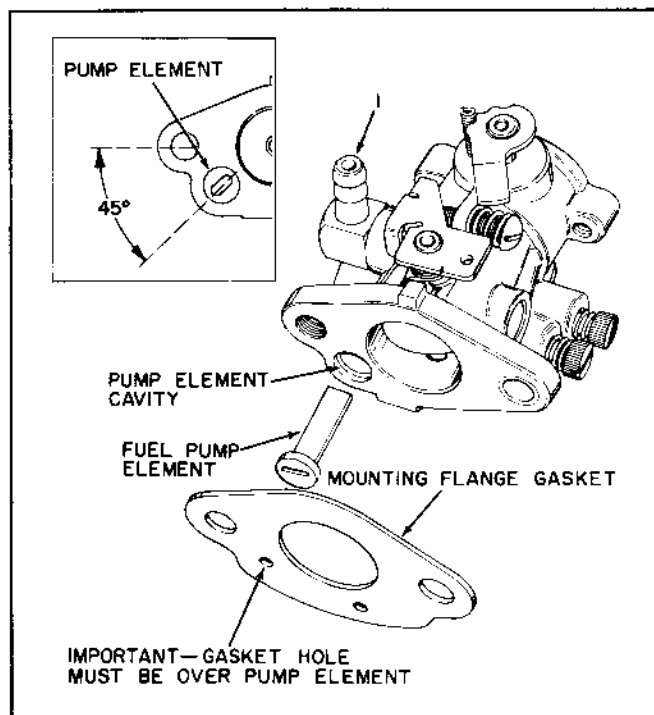
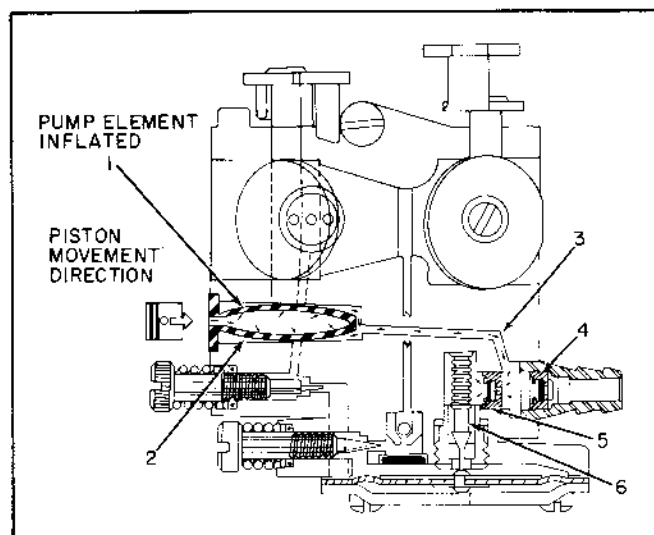

Figure 7-1. Placement of Pump Element in Diaphragm Carburetor
Figure 7-2. Diaphragm Carburetor with Inflated Fuel Pump
- (1) The Tecumseh diaphragm carburetor, with a built-in fuel pump, is very similar to the original Tecumseh diaphragm carburetor, with the exception of the addition of a Fuel Pumping Element and the two disk valves to control the direction of fuel flow. The pump element is inserted into an opening in the mounting flange end of the carburetor body with the slot opening at a 45° angle. (Figure 7-1). A gasket fits between mounting flange of carburetor and cylinder.
The following operation refers to Figure 7-2 and 7-3.
- (1) Inlet Fitting Valve. Place short length of fuel line with end cut perfectly flat over fuel pump element cavity (Fig. 7-1, No. 2). Place finger over fuel inlet fitting to close (Fig. 7-1, No. 1). Suck out air through fuel line - valve should close (Fig. 7-2, No. 5). Be sure fuel line is held tightly against the carburetor body. If valve leaks, blow in gently and repeat.
- (2) Carburetor Body Valve. Place short length of fuel line on fuel inlet fitting (Fig. 7-1, No. 1). Gently suck on tube which should cause valve to close and hold (Fig. 7-2, No. 4). If valve does not hold, blow in gently and repeat sucking action. Replace fuel inlet fitting.